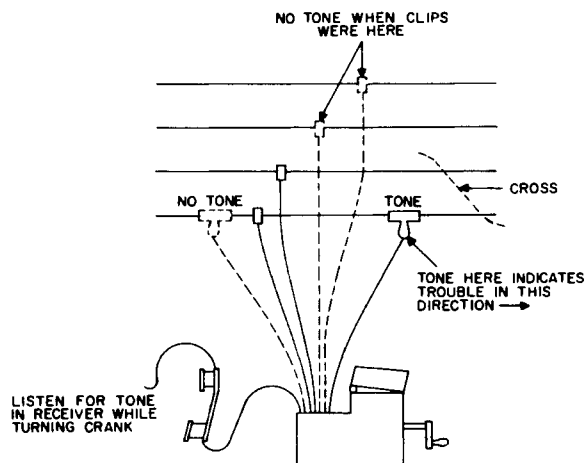

Figure 8. Connection diagram for cross.
- Attach one test clip to each of the two wires believed to be crossed (figure 8). The finder coil need not be attached at this time.